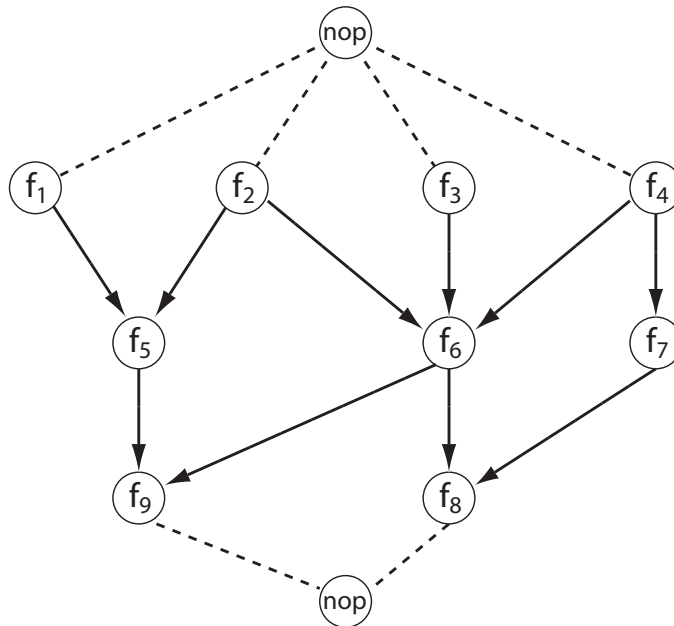

Abbildung 30: Sequence graph
Given are: a sequence graph in Figure 30 and the execution times of the functions from the graph in Table 4.
- (a) (2 Punkte) Draw the weighted constraint graph $G_C = (V_C, E_C, d)$. You can use the graph in Figure 30.
- (b) (3 Punkte) Draw the following additional timing constraints in the weighted constraint graph G_C (again you can add them to the graph shown in Figure 30).